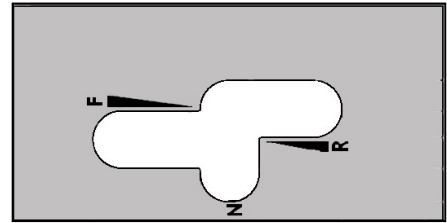

FIG. 37-1
1. Position the hydrostatic lever to “N” (neutral) position (fig. 37-1).